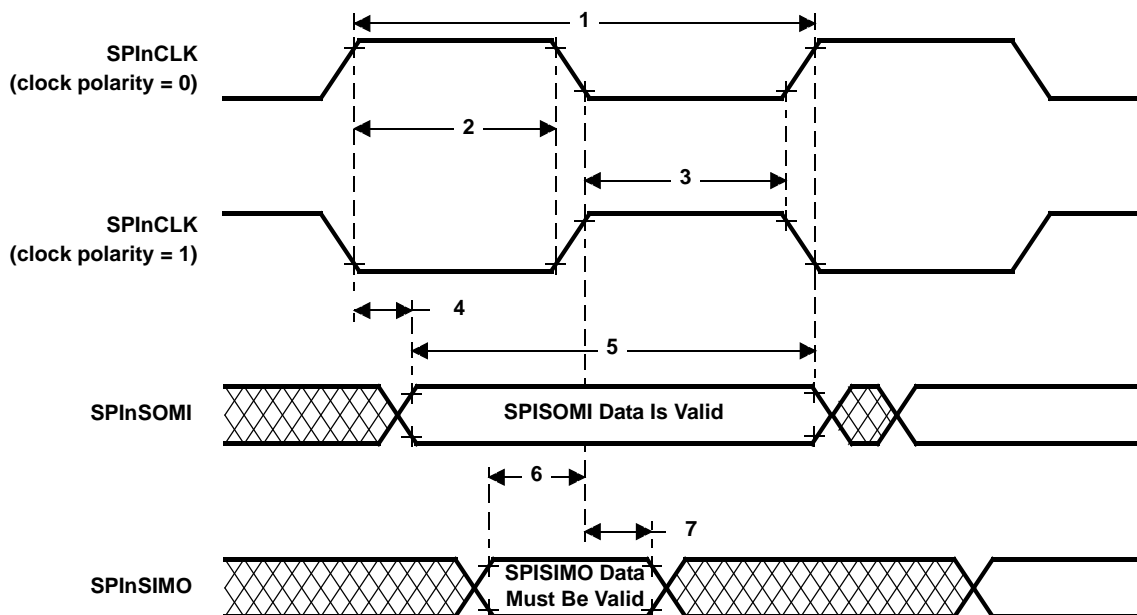

Figure 13. SPIn Slave Mode External Timing (CLOCK PHASE = 0)
**SPIn slave mode external timing parameters (CLOCK PHASE = 0, SPInCLK = input, SPInSIMO = input, and SPInSOMI = output)†‡§¶ (see Figure 13)**